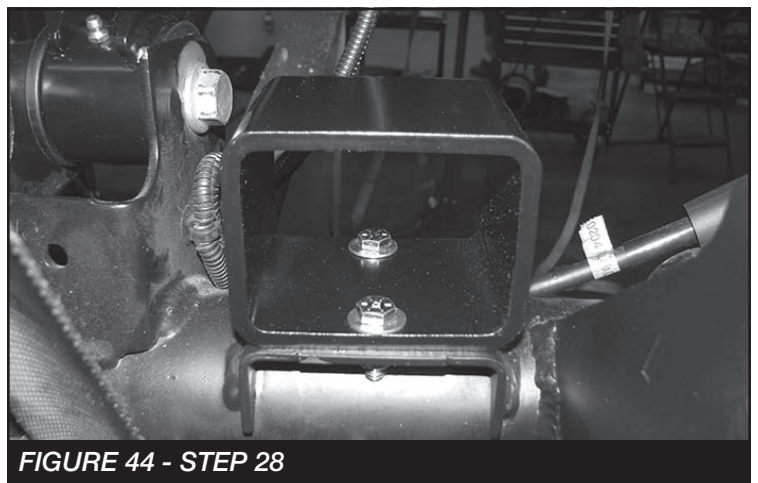

FIGURE 44 - STEP 28
28. Locate FT50401BK Rear Bumpstop Spacer. Position the spacer onto the factory bumpstop pad on the axle and attach with the supplied 5/16" x 1" bolts and hardware (mount the spacer to the axle with the offset of the spacer to the front of the Jeep) **SEE FIGURE 44**